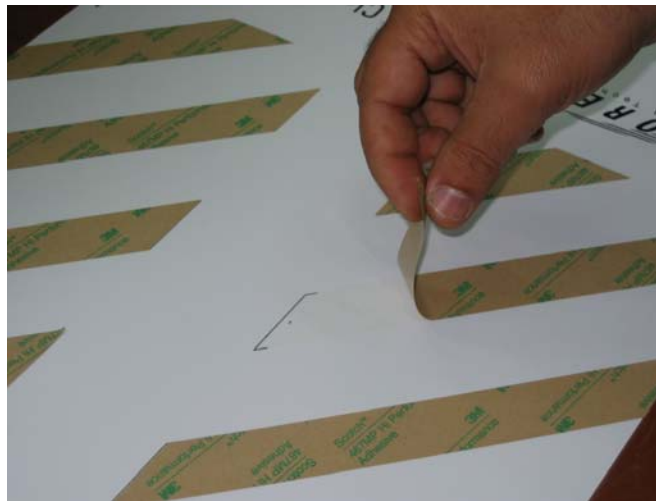

Figure 24: Removing the Protective Paper Strips
9. Remove the protective paper strips from the cleaning plate to expose the adhesive (Figure 24).